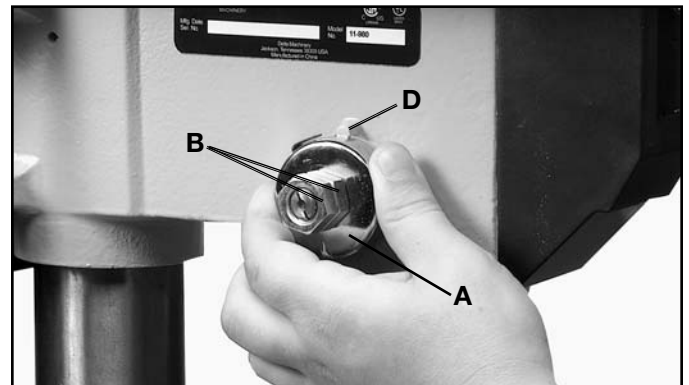

Fig. 34
3. While firmly holding spring housing (A) Fig. 34, pull out housing and rotate it until the boss (D) is engaged with the next notch on the housing. Turn the housing counter-clockwise to increase and clockwise to decrease spring tension. Then tighten the two nuts (B) to hold the housing in place. **IMPORTANT:** Nut (B) should not contact spring housing (A) when tight.